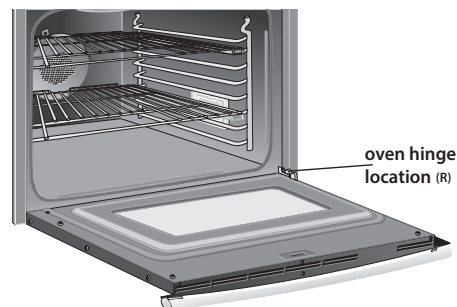

Figure 37: Oven hinge locations
1. Open oven door completely (Figure 37).
3. Open the oven door down to the fully open position. (Figure 37).